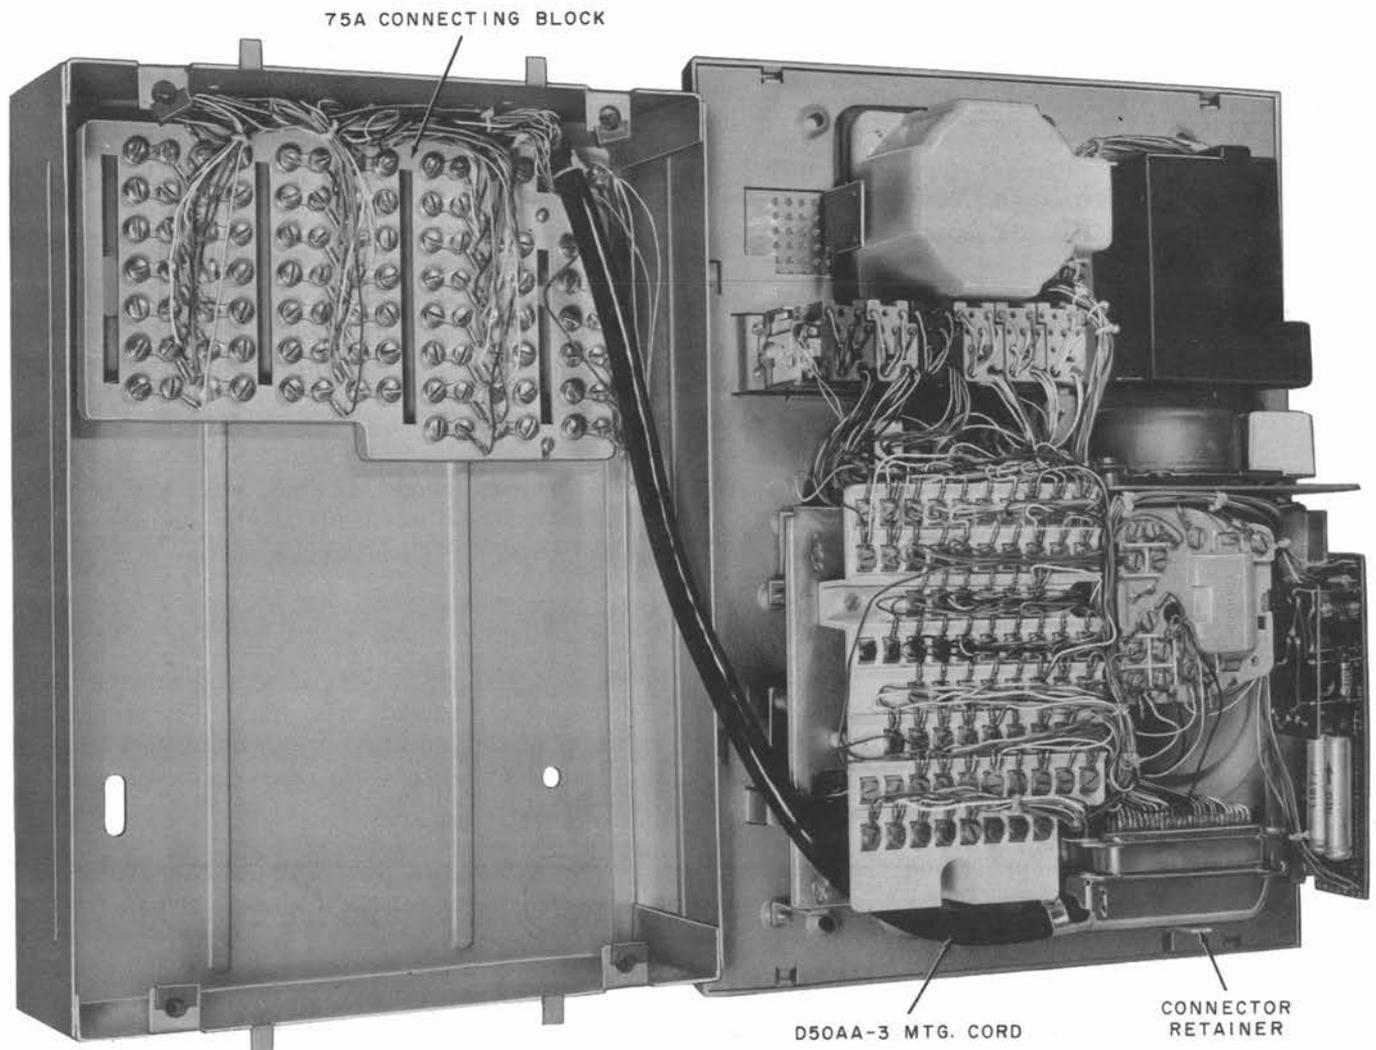

Fig. 3—Installation Detail Using D50AA-3 Mounting Cord and 75A Connecting Block With 114A Apparatus Box
- (1) Dress inside wiring cable conductors through appropriate slots in the 75A connecting block (ordered separately).
- (2) Secure connecting block to mounting bracket in apparatus box.
- (3) Terminate inside wiring cable and D50AA-3 mounting cord conductors in standard color code sequence. Dress slack mounting cord to right side and back of apparatus box.
- (4) Remove plastic retainer frame and mat from telephone set.
- (5) Connect mounting cord (or A25B connector) to telephone set plug and secure in place with connector retainer (Fig. 3).
- (6) Position and secure telephone set in the apparatus box using four mounting screws provided with set.
- (7) Position mat on panel and secure using the mat retainer frame. If necessary, the projecting tabs may be adjusted to insure a snug fit.